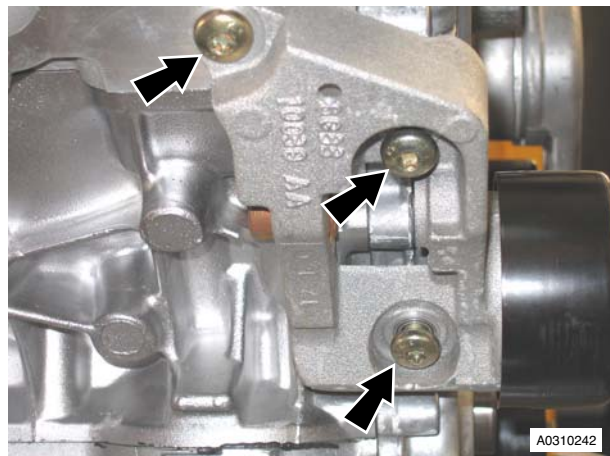

Figure 5
44. Remove the bracket (Refer to Figure 5).